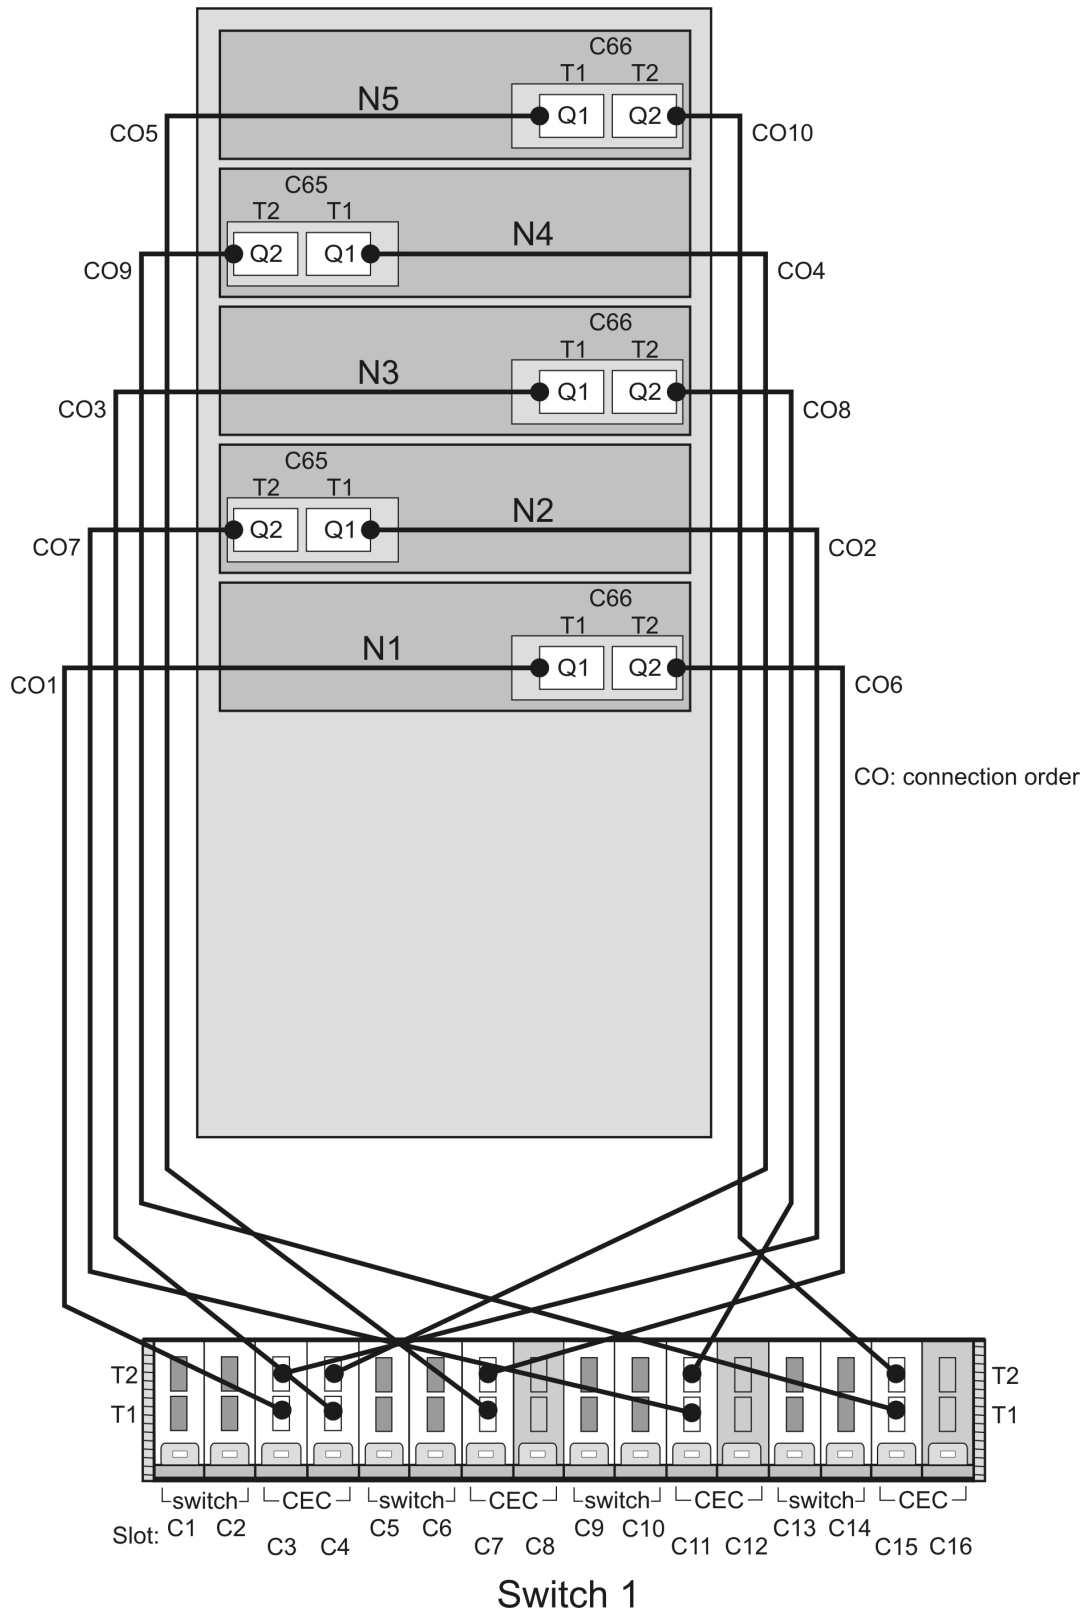
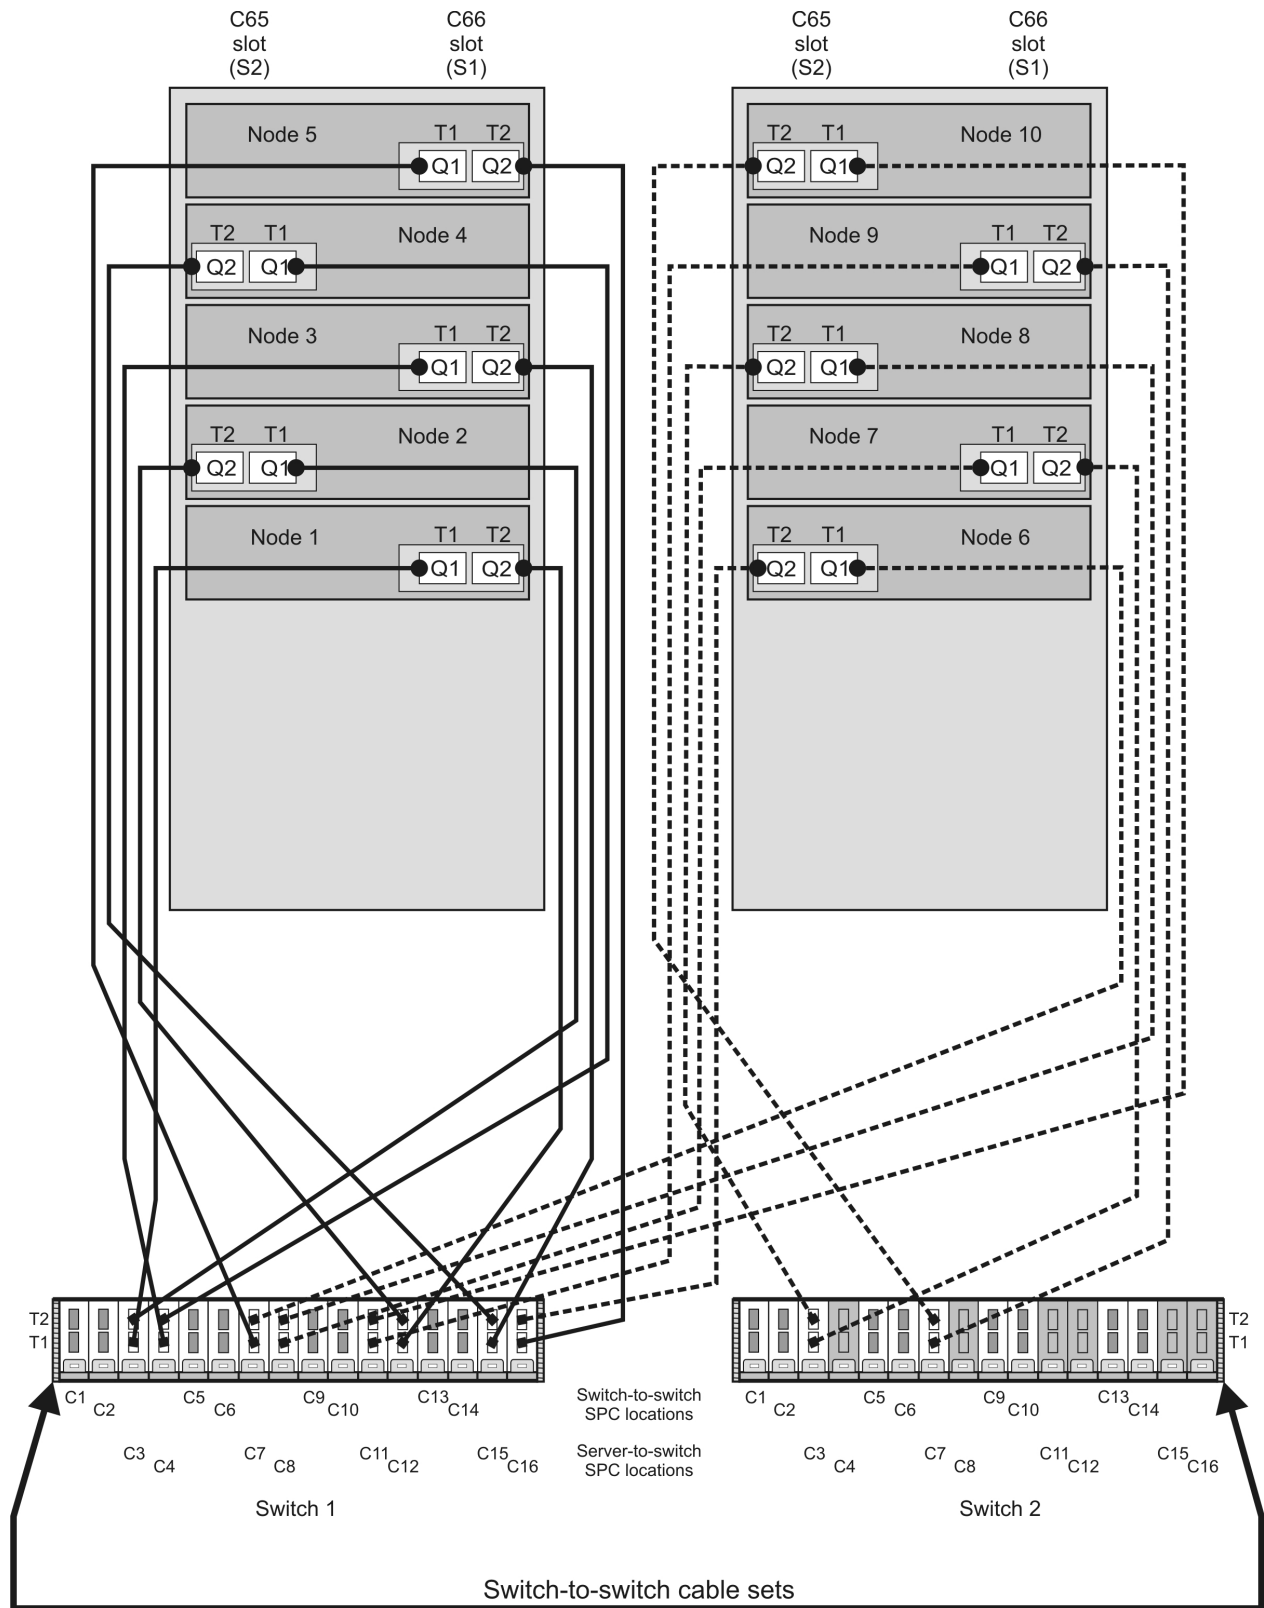

Figure 12. Single network switch configuration with one NSB using sequential switch cabling
Figure 13. Single network switch configuration with two, non-paired, NSBs using sequential switch cabling.
- Refer to Figure 12 on page 41 and Figure 13 on page 43 for illustrations of these cable configurations
Table 11. SNI to switch port locations for Figure 12 on page 41
Table 12. SNI to switch port locations for Figure 13 on page 43